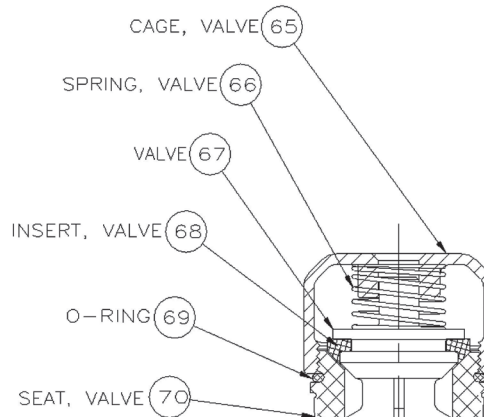

Fig. 6
- A. First remove valve caps (61) and cylinder caps (72) which provide access to suction and discharge valves. Remove the stainless steel cage which serves as a valve guide and spring retainer. Remove cage (65), spring (66), and valve (67), from the pump fluid end. (Fig. 6)
- B. Reassemble valve, spring, and cage as shown in Fig. 6. Be sure that springs are in correct location. When upper and lower valve seats are the same size, the heavier spring (larger diameter wire) is always installed on upper or discharge valve.